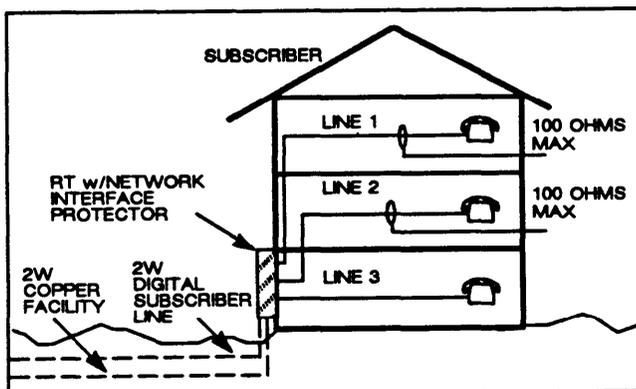

Figure 1. Typical DDL104 DualLine Plus RT Installation
The Wescom® DDL104 DualLine Plus™ Remote Terminal (RT) is an enclosure that can be mounted on an outside or inside wall. The RT contains circuitry to derive 2 Plain Old Telephone Service (POTS) lines from a Digital Subscriber Line (DSL). See Figure 1. An additional cable pair can be terminated in the DDL104 to provide a third POTS line. This third POTS line is connected directly to the copper facility and does not utilize the DualLine Plus electronics. The RT provides protectors for the DSL, and terminals for connecting the DSL and subscriber lines. The RT provides separate telephone company and customer compartments. Modular jacks are provided to isolate the subscriber wiring. The RT electronics are completely powered from the DDL Central Office Terminal requiring no batteries or local power. For the Wescom DualLine System Overview, see Section DDL-001-100.